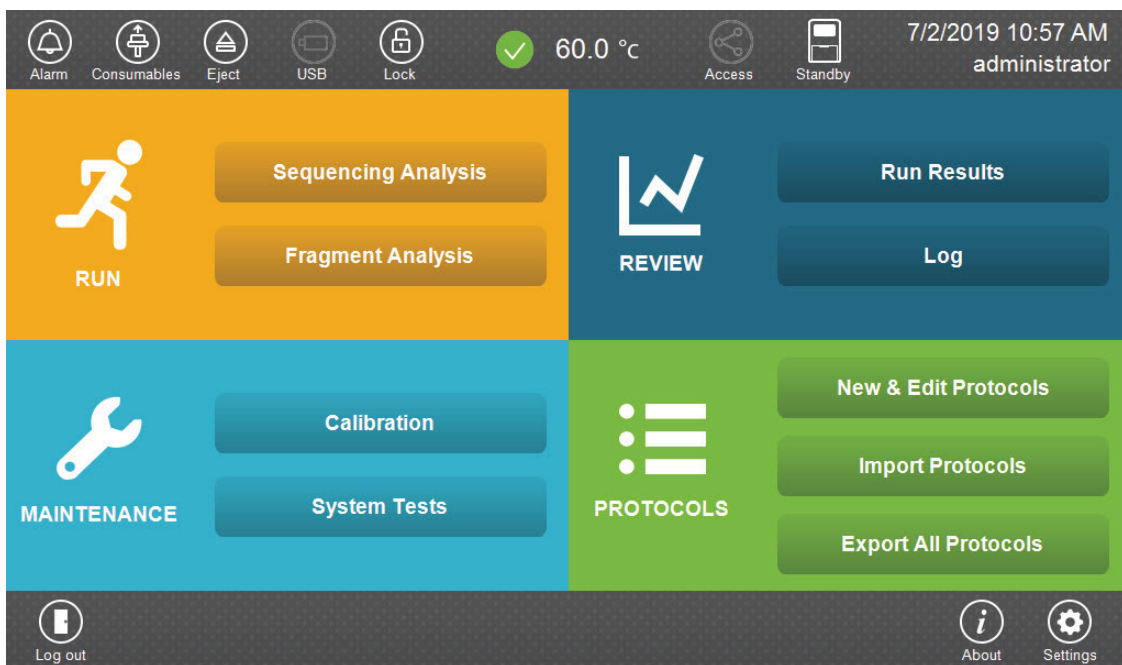

Figure 7. Spectrum Compact CE System Software ‘Main Menu’ screen.
3. Select **Sequencing Analysis** on the ‘Main Menu’ screen (Figure 7)